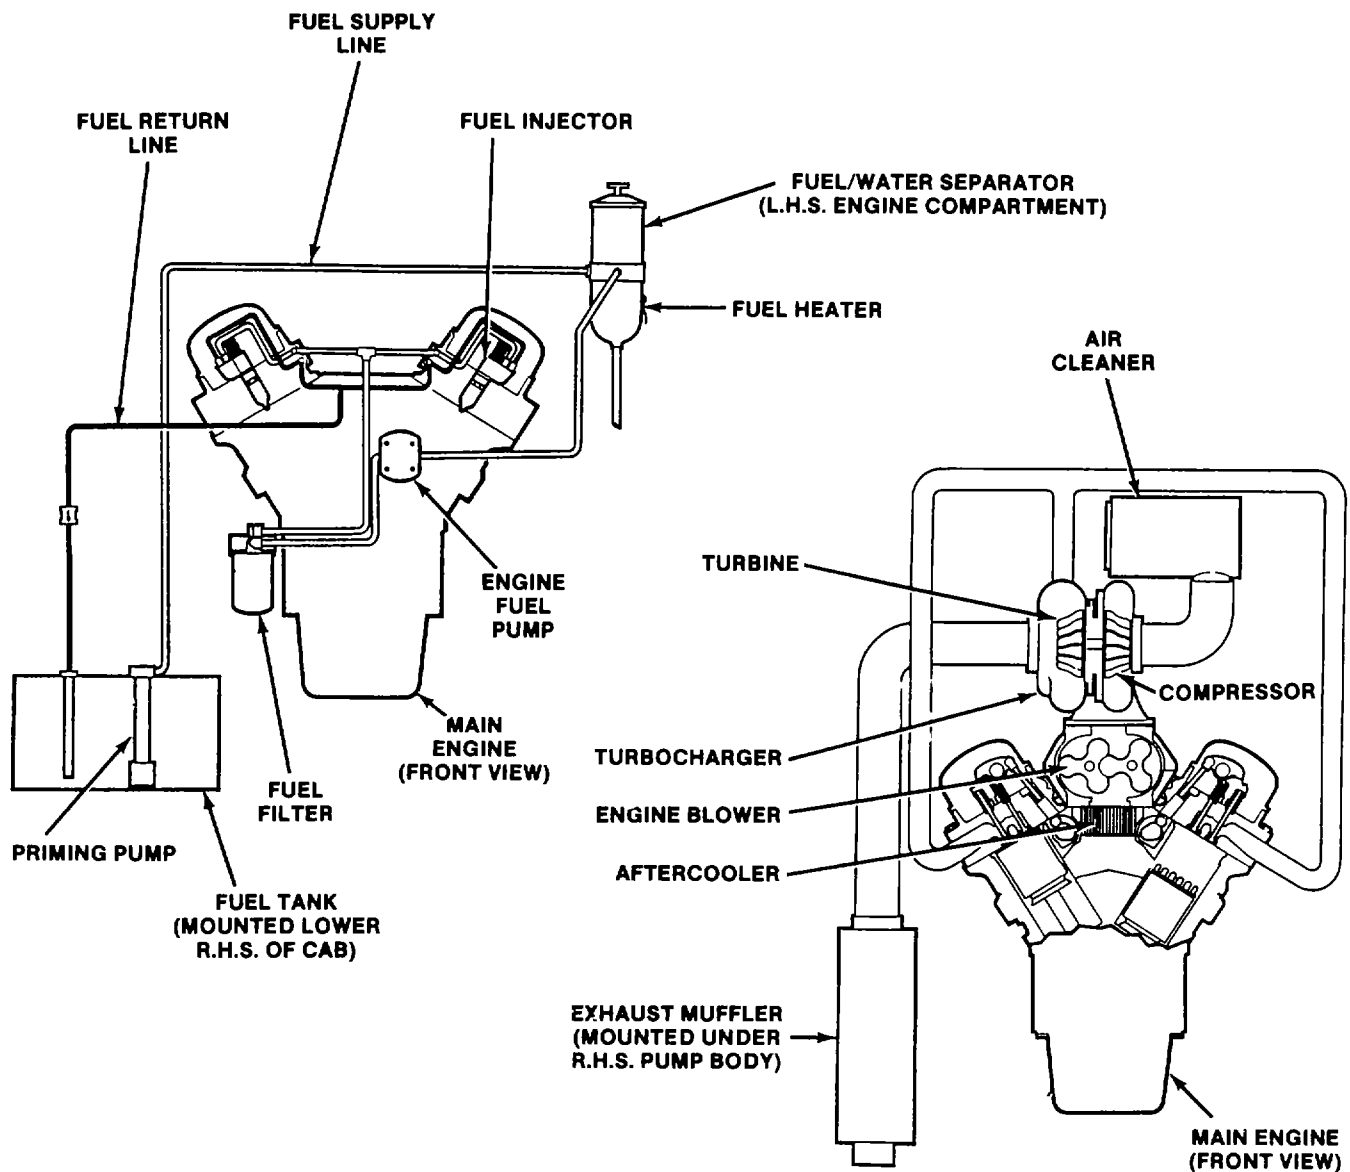

Figure 1-8. Fuel, Air Intake, And Exhaust Systems
(1) The fuel system comprises a 45 gallon fuel tank, 12-volt electric priming pump, fuel/water separator, engine fuel pump, fuel filter, and supply and return lines between tank and engine, (see fig. 1-8). The fuel/water separator is equipped with a heater element for cold weather operation. Both the fuel/water separator and the fuel filter have replaceable filter elements.
(2) The air intake system consists of the air filter, turbocharger compressor, engine blower, and aftercooler. The exhaust system consists of exhaust piping, turbocharger turbine, and muffler. The air cleaner is mounted above the engine and connected with a flexible elbow to the turbocharger. The exhaust pipe is flange mounted to the turbocharger. The muffler is mounted to the frame with rubber bushings and hanger brackets.